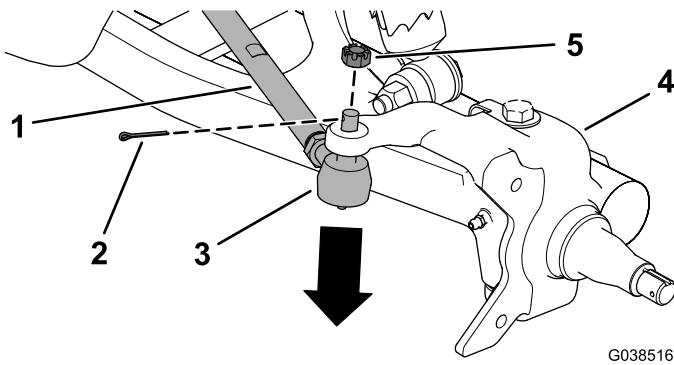

Figure 8
8. Remove the hairpin cotter and slotted hex nut from the tie rod ball joint, and disconnect the tie rod from the spindle (Figure 8).
4. Install the tie rod to the spindle assembly using the slotted hex nut and hairpin cotter (Figure 8).